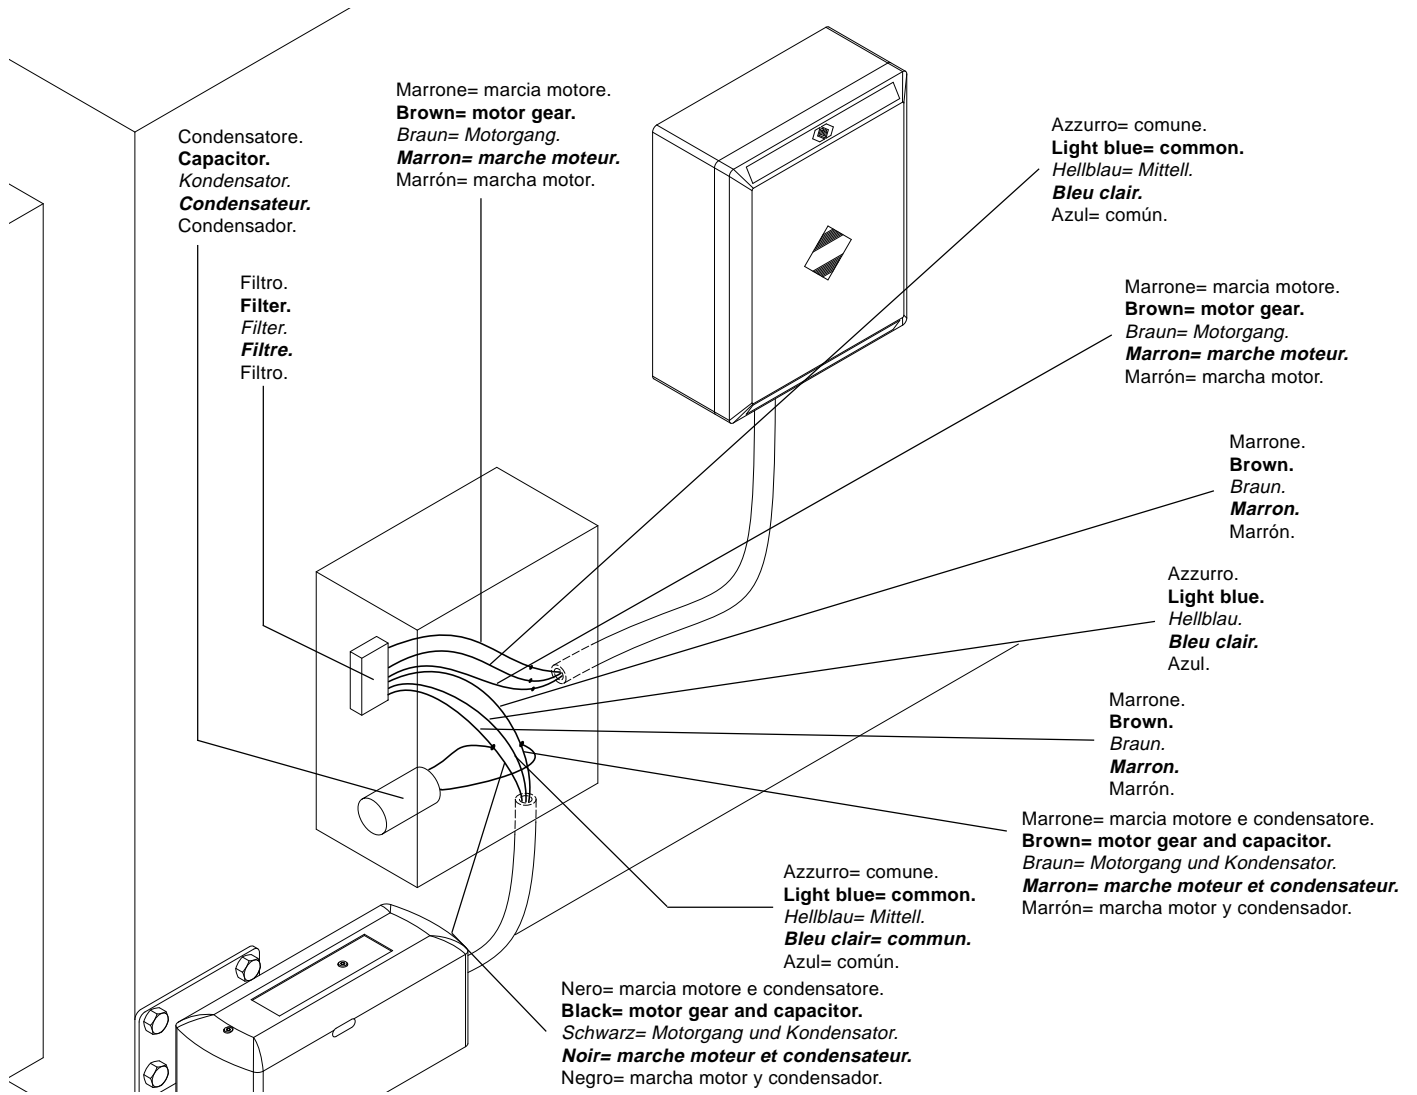

Fig.2
3. Collegamenti (fig. 2)
3. Connections (fig. 2)
3. Kabelanschlüsse (Bild 2)
3. Connexions (fig. 2)
3. Conexiones (fig. 2)